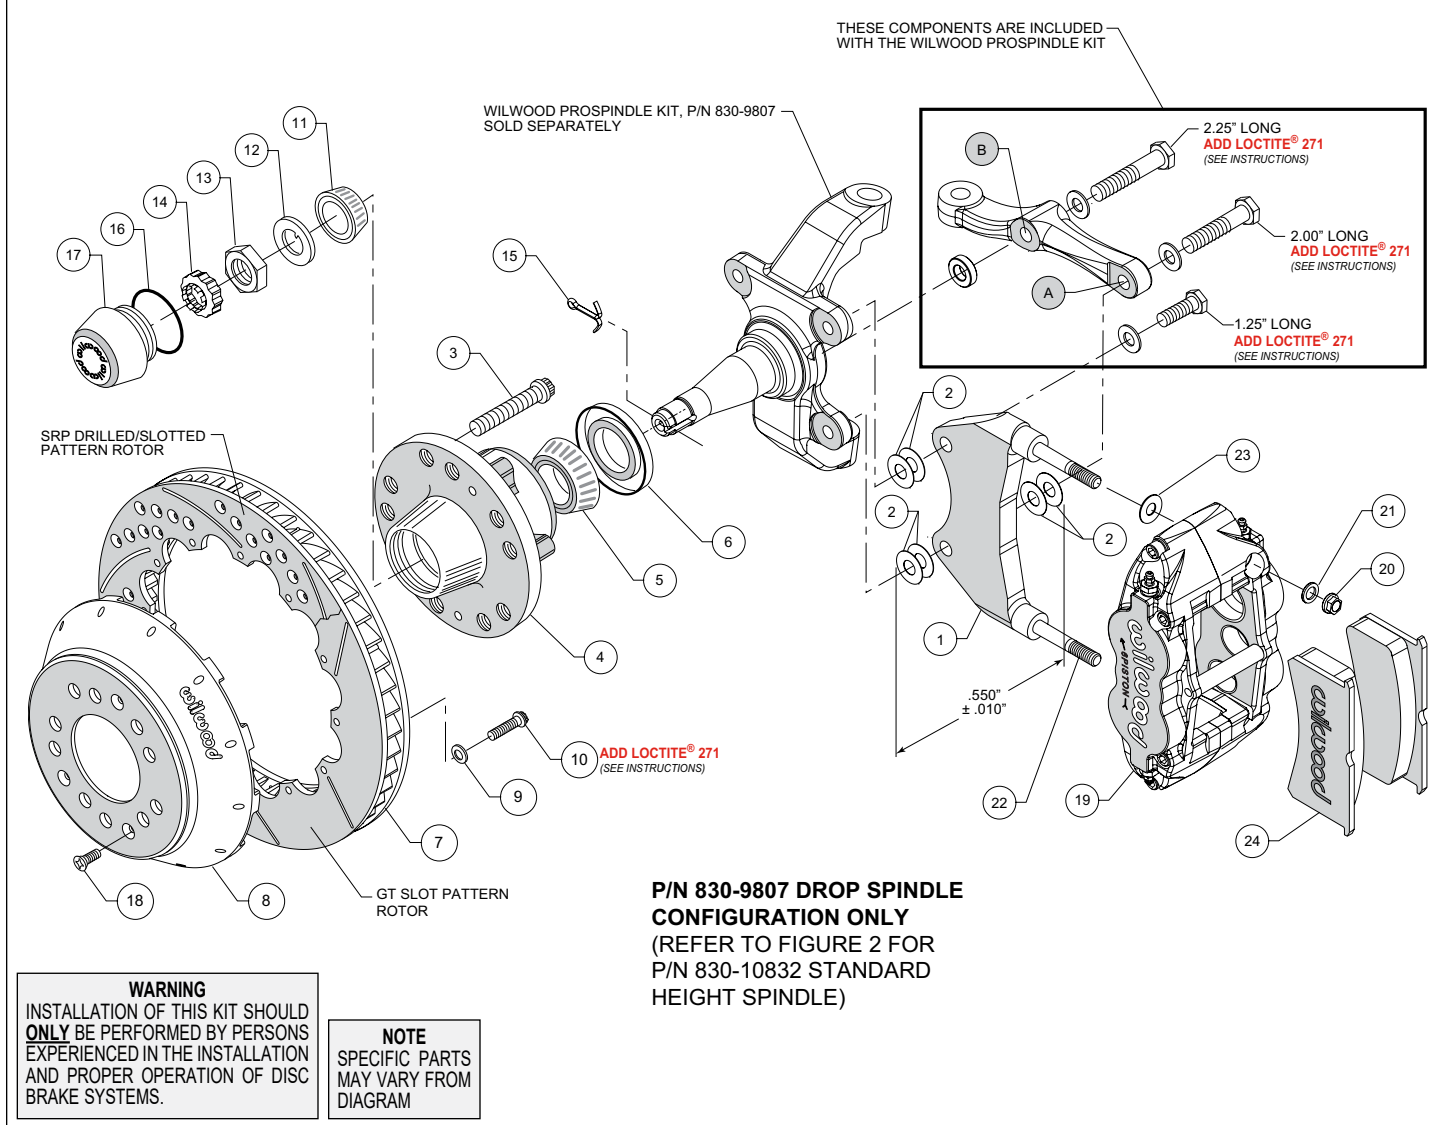
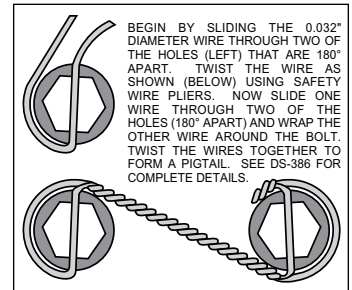

Figure 1. Installation Configuration For Drop Spindle, P/N 830-9807
Figure 4. Safety Wire Diagram
**Assembly Instructions** (numbers in parenthesis refer to the parts list and Figures 1 or 2 on the preceding pages):
- NOTE:** Each Wilwood ProSpindle kit includes bolts, washers, and a spacer to mount the steering arm and caliper bracket. The various bolts are identified by length in the following instructions and in Figures 1 and 2.
**For 2" Drop ProSpindle (P/N 830-9807):** The caliper bracket assembly (1) should initially be installed with clean, dry threads on the mounting bolts.
- Orient the bracket as shown in Figure 1 and Photo 1. Install at top spindle hole using 1.25" long bolt and .06" thick washer (from ProSpindle kit), and two .016" thick shims (2) between the bracket and spindle, Figure 1.
- Orient the steering arm, and identify the hole marked 'A', as shown in Figure 1. Install at bottom spindle hole using 2.00" long bolt and .06" thick washer (from ProSpindle kit), two .016" thick shims (2) between the bracket and steering arm, and another two .016" thick shims (2) between the bracket and spindle, Figure 1. The bracket is located between the steering arm and spindle. **NOTE:** *The bracket and shim washers must add up to a total thickness of .550" ± .010", Figure 1.*
- Finish attaching the steering arm through the hole marked 'B', as shown in Figure 1. Install using 2.25" long bolt, .06" thick washer, and .25" thick spacer (all from ProSpindle kit), Figure 1.
- Pack the large inner bearing cone (5) with high temperature disc brake bearing grease (available from your local auto parts store) and install into the backside of the hub (4), Photo 4.
- Install the grease seal (6) by pressing into the backside of the hub (4), Photo 4.
- Orient the rotor (7) and the hat (8) as shown in Figures 1 or 2, and Photo 5. Attach rotor to hat using bolts (10) and washers (9). Apply red *Loctite*® 271 to the bolt threads and torque to 155 **in-lb** using a criss-cross pattern. For an added measure of security, the bolts may be safety wired using standard 0.032 inch diameter stainless steel safety wire as shown in Figure 4. Refer to Wilwood's data sheet DS-386 (available at [www.wilwood.com/Pdf/DataSheets/ds386.pdf](http://www.wilwood.com/Pdf/DataSheets/ds386.pdf)) for complete safety wire installation instructions.
- Pack the small outer bearing cone (11) with high temperature disc brake bearing grease and install into hub (4). Slide the hub assembly onto the spindle. Secure using spindle washer (12) and spindle nut (13), Photo 6. Bearing adjustment: Tighten the nut while turning the hub. When there is a slight bind on the bearings, they are seated correctly. Back the nut off about 1/6 to 1/4 of a turn, or sufficiently to allow .001" to .007" end play. **WARNING:** Failure to back off adjusting nut could cause bearing to run hot and be damaged, which could cause the wheel to lock or come off. Install spindle nut retainer (14) and cotter pin (15).
- Screw dust cap (17) into hub (4), Photo 7. Friction created by the o-ring (16) on the dust cap keeps it from unscrewing.
- Slide the hat/rotor assembly (7/8) onto the hub (4) taking care to align the small countersunk holes in the hat with the small threaded holes in the hub. **NOTE:** The hat must fit flush against the hub face or excessive rotor run out may result. Install three flat head screws (18) through the small holes in the hat (8), Photo 7, and torque to 85 **in-lb**.
- NOTE:** This kit contains distinct right and left hand calipers that must be mounted in a specific direction, as described below. Initially place one .035" thick shim (23) on each stud (22) as shown in Figure 1 or 2, and Photo 8. Mount the caliper (19) onto the bracket (1) using lock nuts (20) and washers (21), Figure 1 or 2. Ensure that the caliper is mounted so that the largest pistons are at the rotor exit end of the caliper, in relation to the direction of rotor rotation. Temporarily tighten the lock nuts and view the rotor through the top opening of the caliper. The rotor should be centered in the caliper, Photo 9. If not, proceed as follows:
- For the lower bracket mount bolt, if a shim was added between the bracket and spindle, then a shim must be removed between the steering arm and bracket, such that the total thickness of bracket and shims remain equal to  $.550 \pm .010$ ", Figure 1.